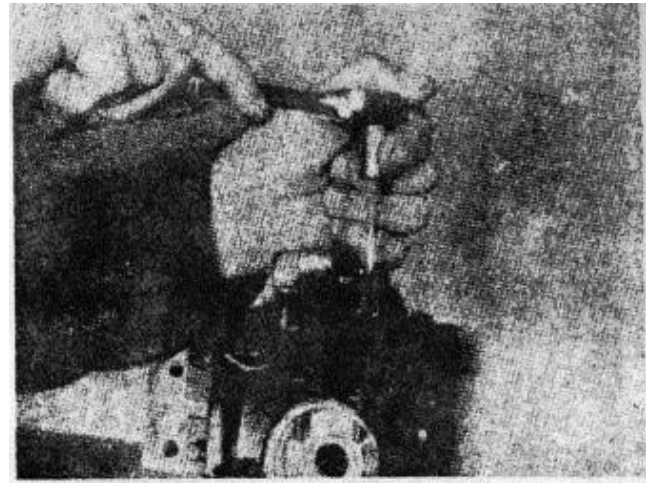

Figure 4-15. Loosening the filter screen cover
1. Loosen the filter screen cover. Fig. 4-15.